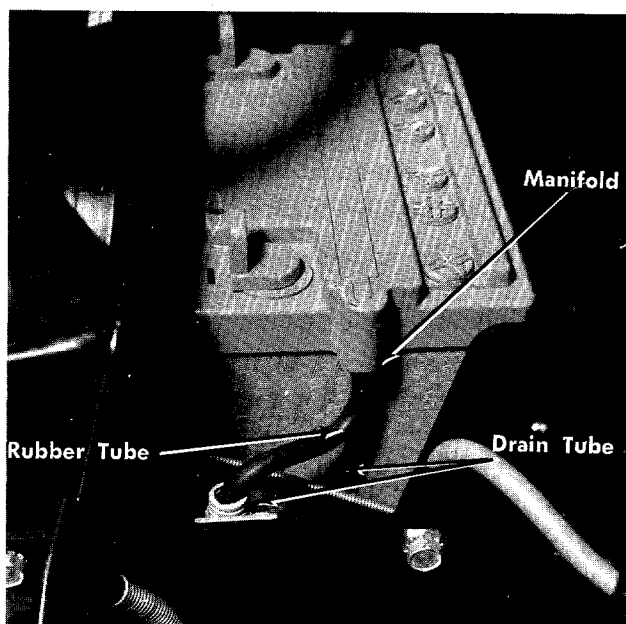

FIGURE 3
- Step 1. Place the battery in the battery case with the terminals to the rear. (See figure 3.)
- Step 3. Push the rubber tubing into the manifold of the battery and place the other end into the drain tube. (See figure 3.)